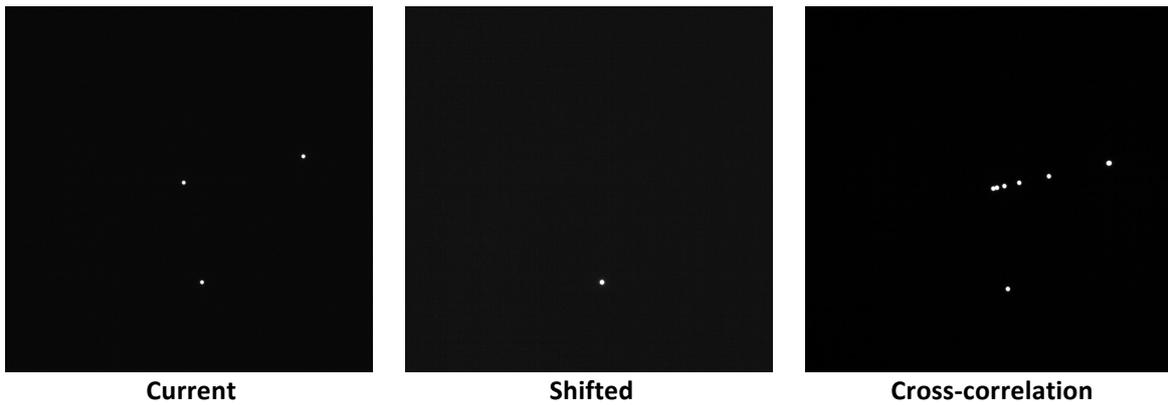
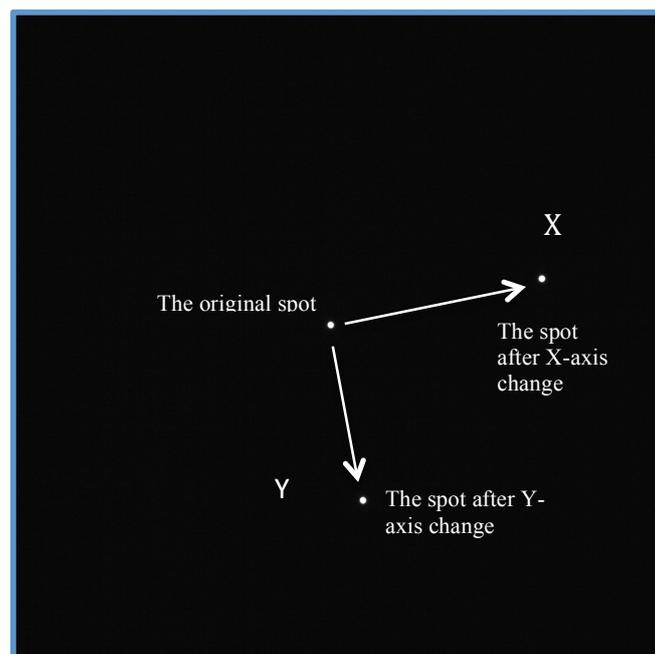

Fig. 9 Coil calibration images appear after the calibration process.
Fig. 10 Explanation on the Current pattern in Fig. 9.
The **Current** pattern in Fig. 9 is a sum of 3 recorded diffraction patterns – the original and 2 with induced changes along x- and y-axes of the coil. The 3 spots seen in the **Current** pattern in Fig. 9 is explained in Fig. 10:
The **Shifted** pattern in Fig. 9 shows the last pattern with the deviation of the y-axis of the coil.
The **Cross-correlation** pattern in Fig. 9 is the sum of 2 individual cross-correlation patterns: (1) the original pattern and the pattern where the x-axis has been changed; (2) the original pattern and the pattern where the y-axis has been changed. Since in each case the cross-correlation shows a single peak then the sum of the 2 cross-correlation functions must show **2 well-separated peaks**.